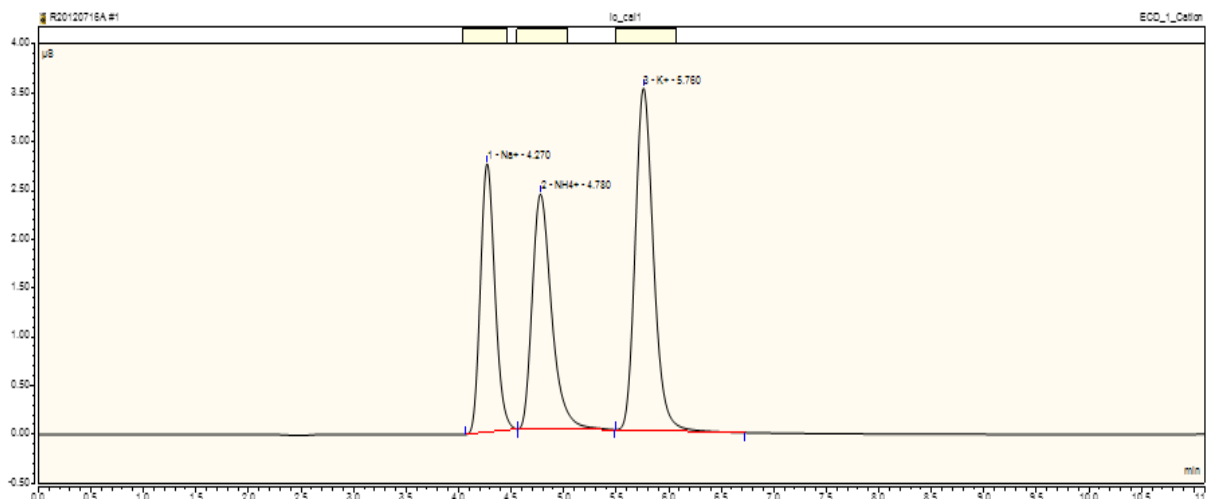

Figure 4.37. Typical cation chromatogram using MSA as eluent.
- 12) Check each chromatogram individually for correct shape and integration. See Figure 4.37. Comment on all anomalies and flag data accordingly.